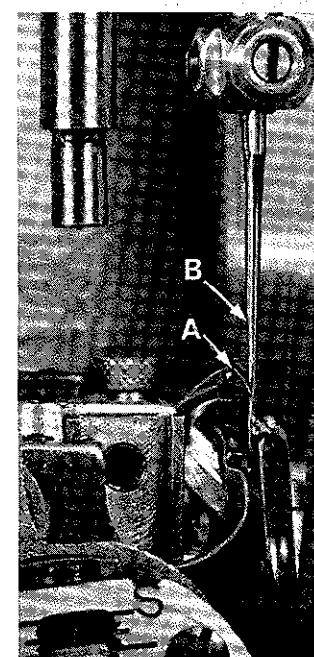

Fig. 7
The looper is set correctly in line-of-feed, if, as it moves to the left, behind the needle, its point (A, Fig. 7) brushes, but does not pick at the rear of the needle (B).
The height of the needle (B, Fig. 7) is correct when the top of its eye is $3/64$ inch below the underside of the looper, side of the left needle. If adjustment is